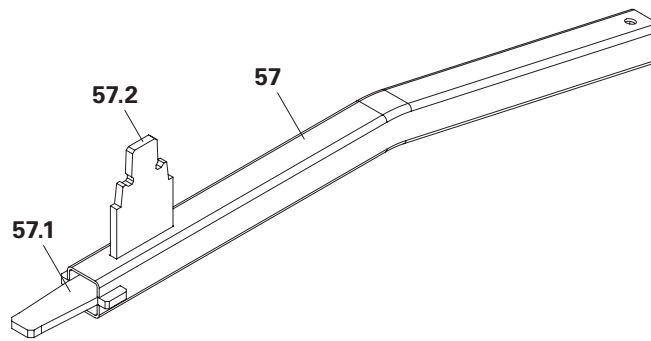

Fig. A6.16
The Magnetic Cone Spanner MX15/18 (57) is used to remove magnet cones. (Fig. A6.16)